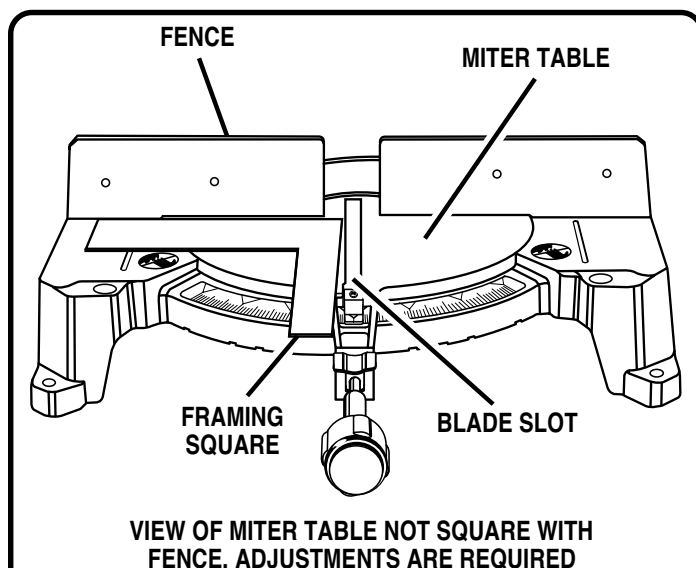

Fig. 18
- If the edge of the framing square and the blade slot in the miter table are not parallel as shown in figures 18 and 19, adjustments are needed.